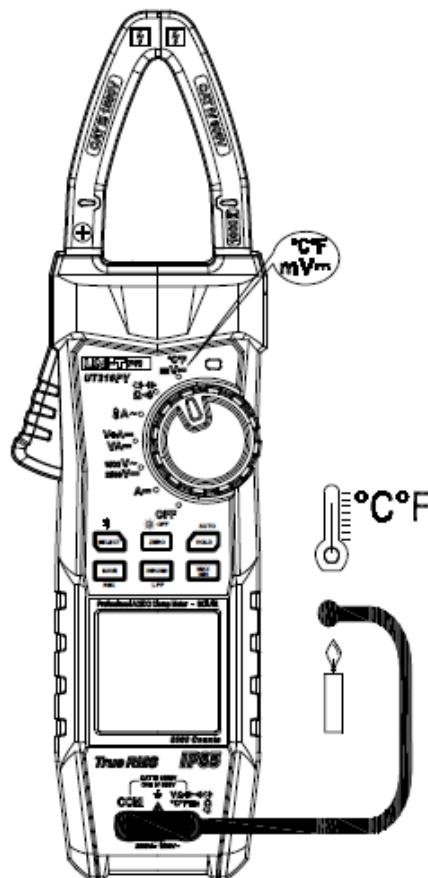

Figure 12
9. Temperature measurement (Figure 12)